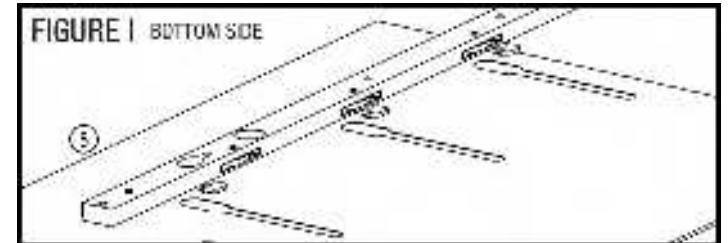
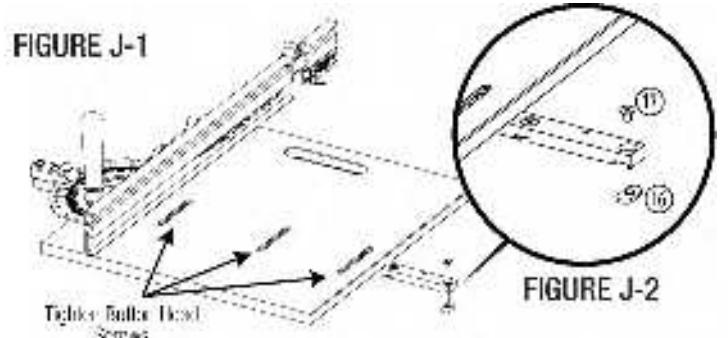

FIGURE J-1
FIGURE J-2
10. The Miter Sled attaches to the Miter Bar (3) through slots that accommodate the distance between the miter slot and the saw blade of most table saw designs.
11. Place a Rectangular Washer (5) onto a Button Head Cap Screw (6) and thread into the holes in the Miter Bar. At this point in time, the screws only need to be threaded in a couple of turns. **FIGURE H**
13. Once all three washers and button heads have dropped into the slots, slide them to the middle of the track. Flip the sled right side up. Tighten the Button Head Screws into the Miter Bar until they are just snug enough to keep the bar from sliding. Calibration of the Miter Bar to your saw will be done later. **FIGURE J-1**
14. There are (2) T-Slot Nuts you can install if your table saw miter slot has a T-shaped profile.
15. To install, place a Track Nut (7) into the cutout, with the raised side facing the hole, then install a Flat Head Screw (8) into the countersink on the other side of the Miter Bar. Tighten fully using the Hex L-Key. **FIGURE J-2**
16. One Zero Clearance Block (9) is included. This MDF block helps push the cutoff past the blade and prevents tear cut on the backside of the cut. To install the Zero Clearance Block, pre-install the Button Heads (10), #10 Washers (11), and #10 Track Nuts (12) into the block, then slide into the rear slot of the Fence Track. Additional blocks are available for purchase in 3-packs, or you can make your own. **FIGURE K**